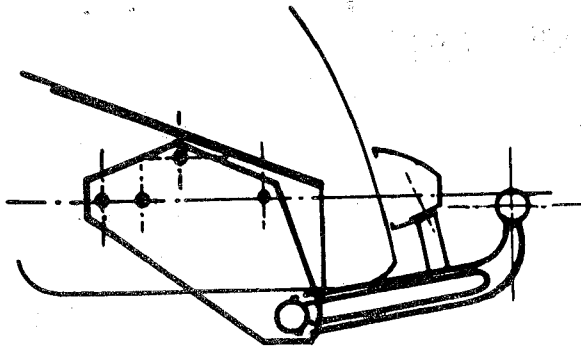

Fig. 2
5. Slide the trailer hitch assembly into place and secure with bumper bracket retaining screws (see Fig. 2 and 3).